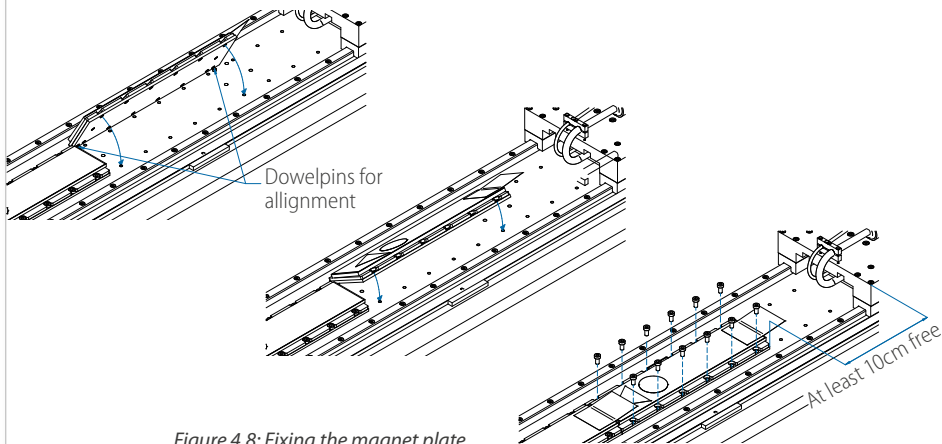

Figure 4.8: Fixing the magnet plate.
3. Take care that the magnet plate is oriented correctly and fix the magnet plate to the mounting frame using all mounting holes. See figure 4.8.